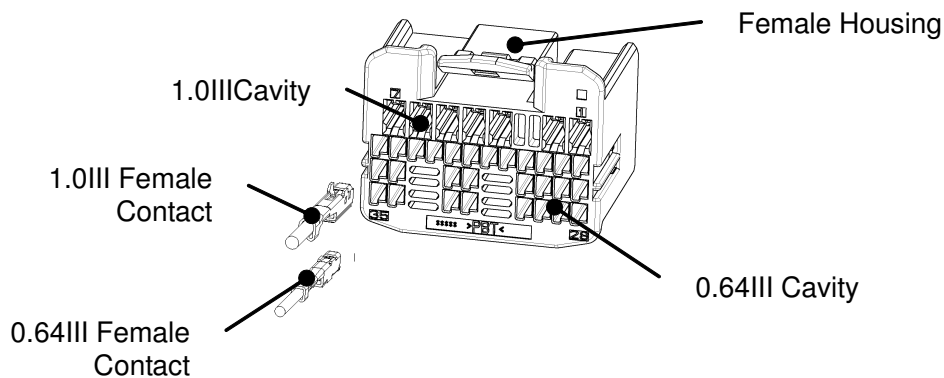

Fig.10
(3) Insert the contacts into the housing with same direction as shown in Fig.10. The insertion is finished when the lance is locked and the contact can not be more inserted.